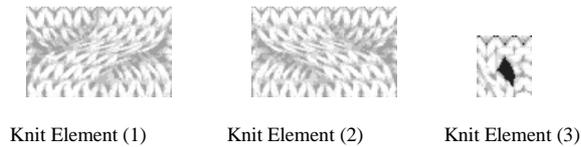

Figure 6-4 Knit Element
3. Putting those three knit elements of Figure 6-4 together, they must be the same number of stitches. The Knit Element 1 and Knit Element 2 both are “8×6”, they can be put together directly. But the Knit Element 3 is “3×4”, so that it must use the Repeat command to match with the other two Knit Elements (1 & 2);